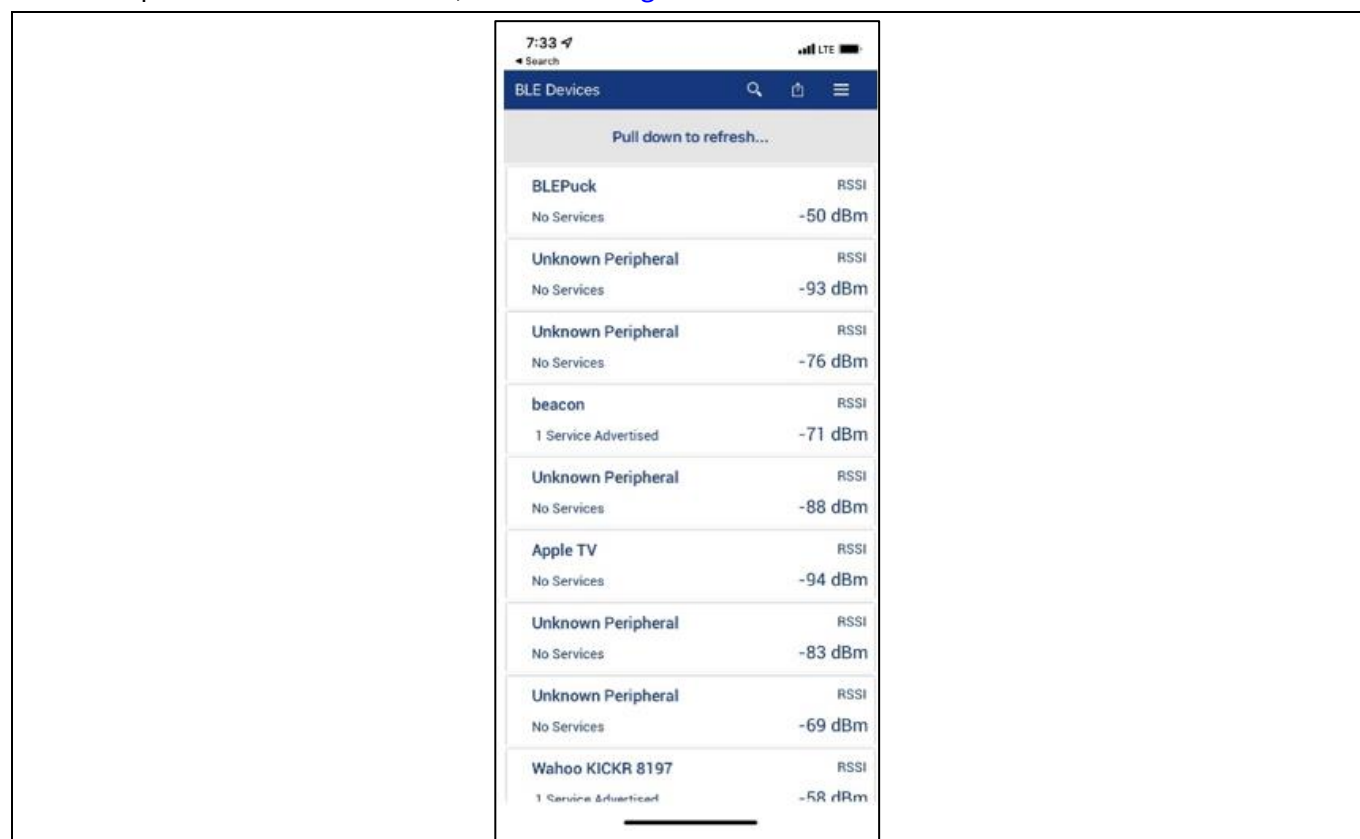

Figure 17 BLEPuck in BLE found devices list
- Check to make sure the BLE device is showing in the XENSIV™ Wireless Presence Detection Sensor. It will show as "BLEPuck". Any scanner app can be used to check if it is broadcasting, e.g., CySmart, which is downloadable from the Apple App Store or Google Play Store. Open the scanner app, and BLEPuck should show up in the list of BLE devices, as shown in Figure 17.